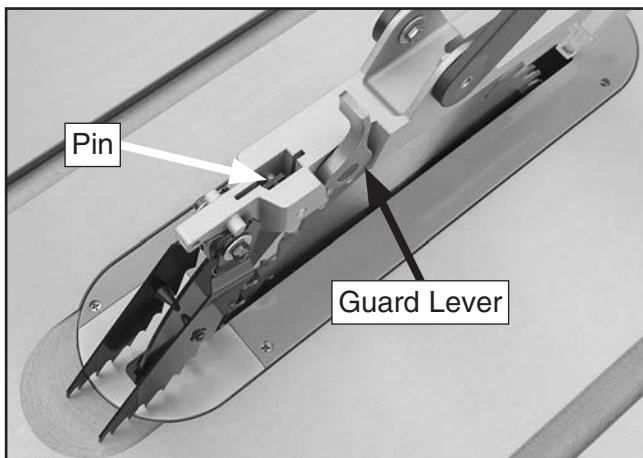

Figure 50. Example of blade guard installation.
- Insert rear pin on blade guard into rear slot of spreader (see **Figure 50**), then push down on blade guard assembly so forward pin slides into forward slot of spreader.